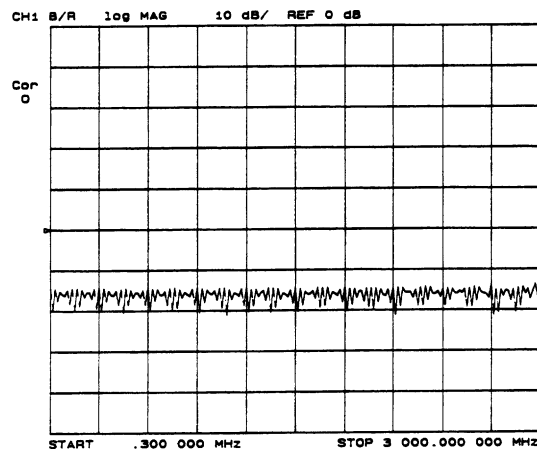

Figure 5-4. Response in the Frequency Domain (beating)
- 19** Clean the ends of the short cable device under test (3 meters) and connect it to the coupler's output/input port. Refer to Figure 5-4, and notice the response in the frequency domain. The trace is still at about -14 dB, but shows a ripple pattern caused by the reflected modulated light bouncing back and forth along the path. This effect is sometimes called beating, where re-reflected light is adding and subtracting (as a vector) to the signal as the modulation frequency is varied. The re-reflections occur because of the light bouncing off the end of the short cable (Fresnel), returning back to the coupler, and bouncing back again. This entire re-reflecting process results in the reflections beating against each other.